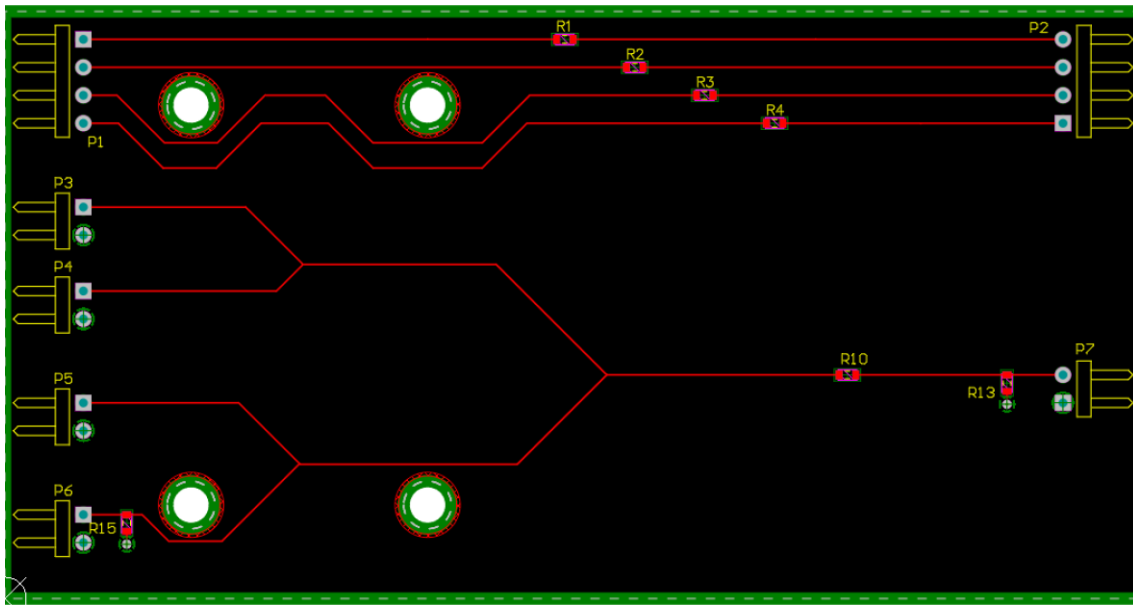

Figure 1. PCB without xSignals and Length Tuning
4. Open the `xSignals.PcbDoc` PCB document. You'll notice the component placement and routing is already complemented as shown in Figure 1 below.